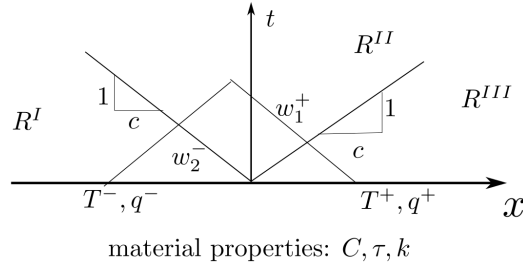

Figure 2: Initial conditions, solution regions, and wave speeds for Riemann problem of 1D MCV heat equation with same material properties.
- (200 Points) Riemann solution for same material properties on the two sides: Using left eigenvalues and eigenvectors of \mathbf{A} present $\mathbf{U} = [T \ q]^T$ in regions R^I, R^{II}, R^{III} in figure 2.